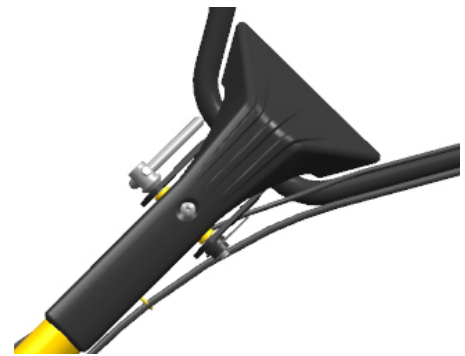

Figure 5
- Loosen the lifting handle and select the hole in an appropriate position, then adjust the handle's cross bar to as high as user's waist, then turn the lifting handle to tighten it (See Fig.5).